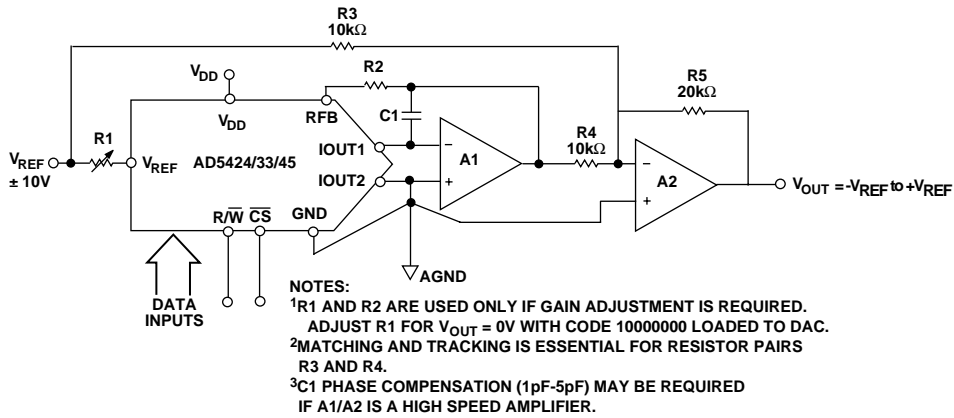

Figure 5. Bipolar Operation (4 Quadrant Multiplication)
In some applications, it may be necessary to generate full 4-Quadrant multiplying operation or a bipolar output swing. This can be easily accomplished by using another external amplifier and some external resistors as shown in Figure 5. In this circuit, the second amplifier A2 provides a gain of 2. Biasing the external amplifier with an offset from the reference voltage results in full 4-quadrant multiplying operation. The transfer function of this circuit shows that both negative and positive output voltages are created as the input data (D) is incremented from code zero ($V_{OUT} = -V_{REF}$) to midscale ($V_{OUT} = 0V$) to full scale ($V_{OUT} = +V_{REF}$).